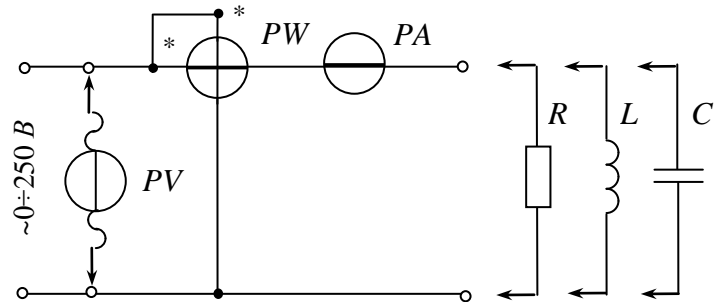

Fig. 3.11.
Measuring devices are: $PV(P\Omega)$ – multimeter III4300 to measure voltage, options: $\langle \sim \rangle, \langle V \rangle, \langle 200 V \rangle$; to measure resistance, options: $\langle - \rangle, \langle R \rangle, \langle 2 \kappa\Omega \rangle$; PA – amperemeter Э536, limit of measuring $\langle 0.5 A \rangle$; PW – wattmeter for measuring power, limit of measuring: $\langle 150 V / 0.5 A \rangle$. The way of measuring devices placement is shown in fig. 3.11.
1. To collect the circuit (fig. 3.11) and connect it to the clamps $\langle \sim \rangle \langle 0 \div 250 V \rangle$. To place $LATR$ switch in position $\langle \sim \rangle, 0 \div 250 V$.
The name and purpose of the work. Homework – the calculation of the circuit. Schematic diagram of the investigated circuit (fig 3.11). Tables 3.2, 3.3, 3.4. The substitutional schemes of coil and capacitor and calculations of their parameters. Vector diagrams for resistance, coil and capacitor. Conclusions.